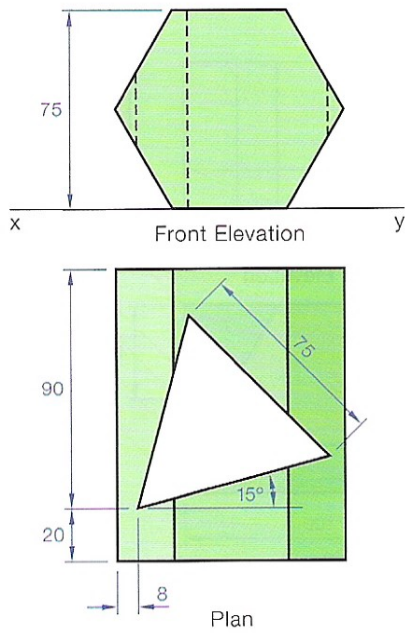
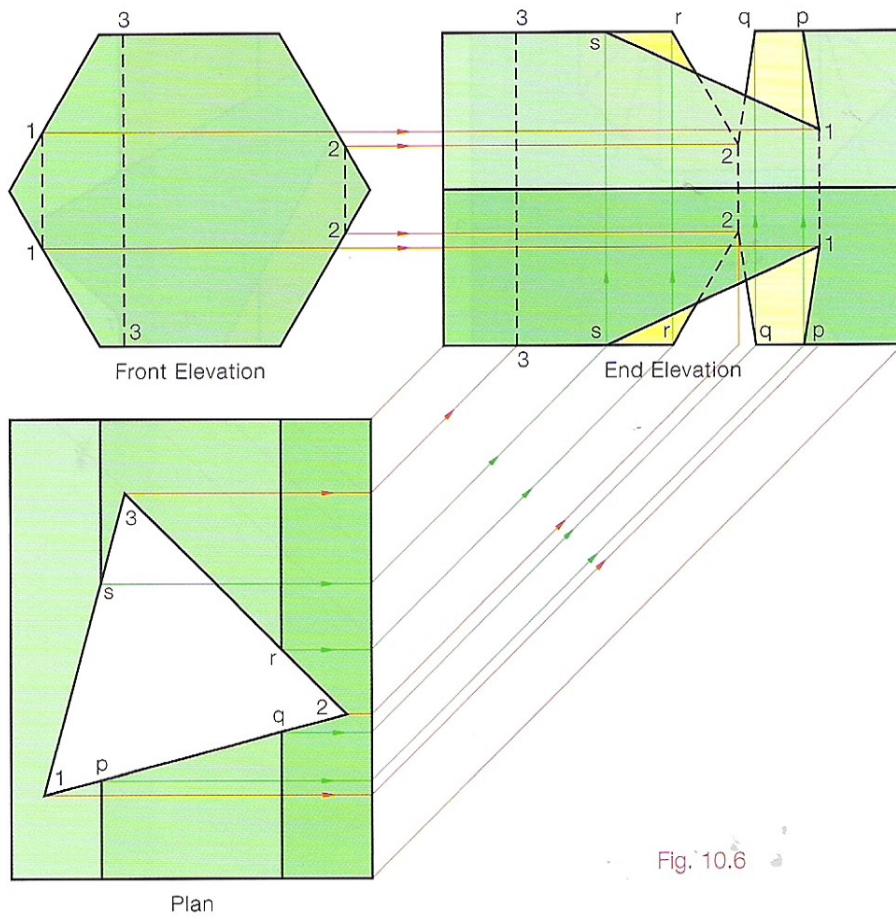

Fig. 10.5
Fig. 10.6
**Given the plan and elevation of a hexagonal prism with an equilateral triangular hole cut through it. Draw the given views and project an end view of the solid, Fig. 10.5.**
- (1) Draw the plan and elevation as given. Both of these views are complete.
- (2) By projecting points from both of these views onto the end view we can build it up.
- (3) Note the bend points p, q, r and s where one of the cutting planes crosses two or more planes.
- (4) When all the points are found they are joined up in order. The order in which they are joined is best seen in the plan. 1 → p → q → 2 → r → 3 → s → 1, Fig. 10.6.